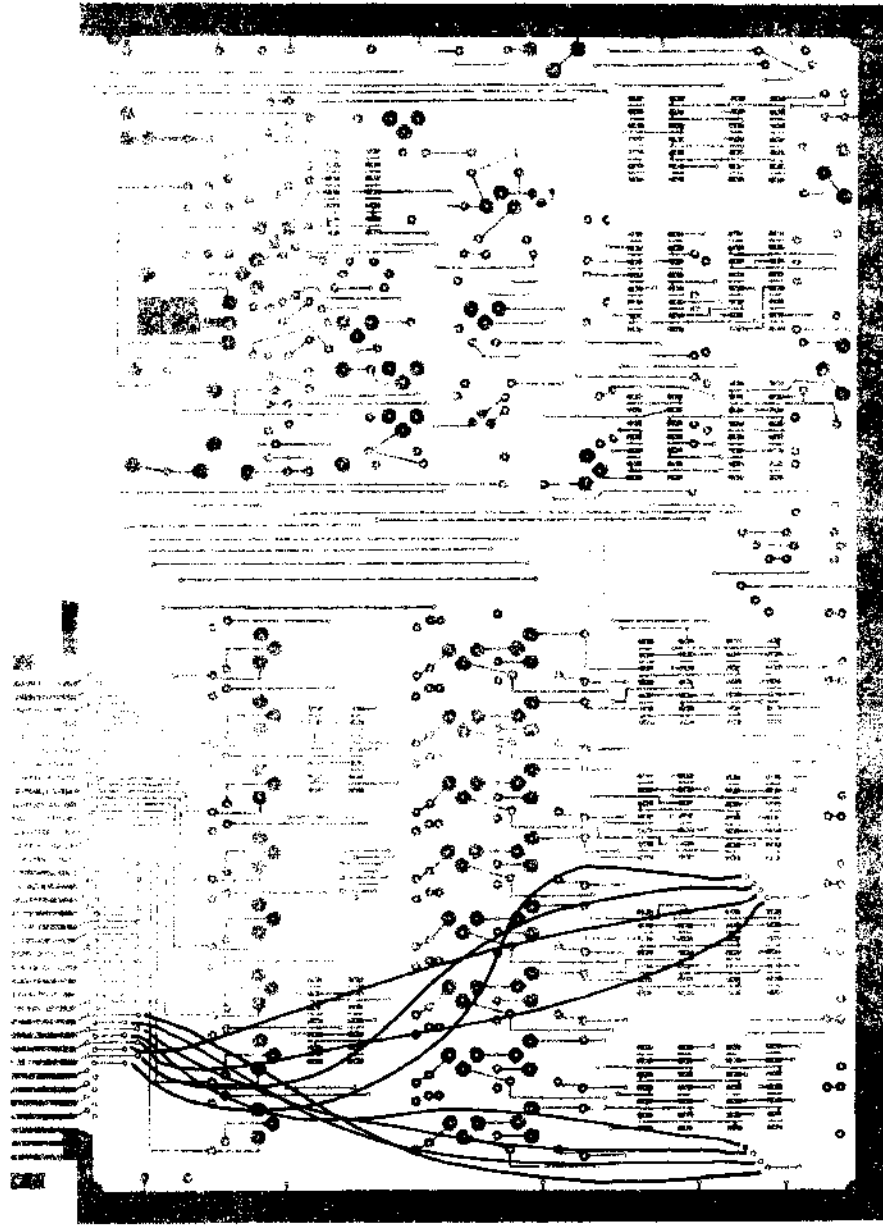

Figure 5. Data Input Drivers Wiring
- ( ) Install the remaining eight wires as shown in Figure 5. Solder and cut off excess lead length.